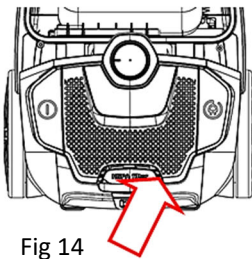

Fig 14
- Clean or Exchange the outlet Hepa filter:** Open the outlet cover and take out the HEPA frame and filter. Wash it and install it after the filter has fully dried (Fig 14 and 15).